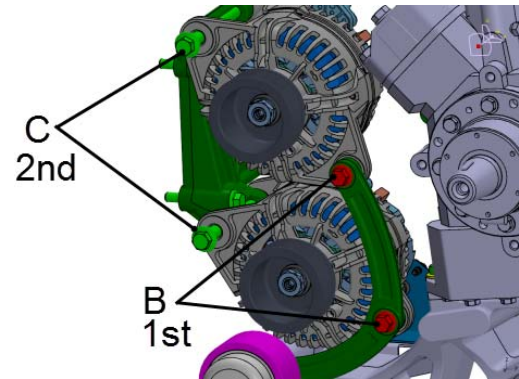

FIGURE 17
22. In order to assure proper installation, it is important to tighten the alternator mounting bolts in proper sequence (**FIGURE 17**).